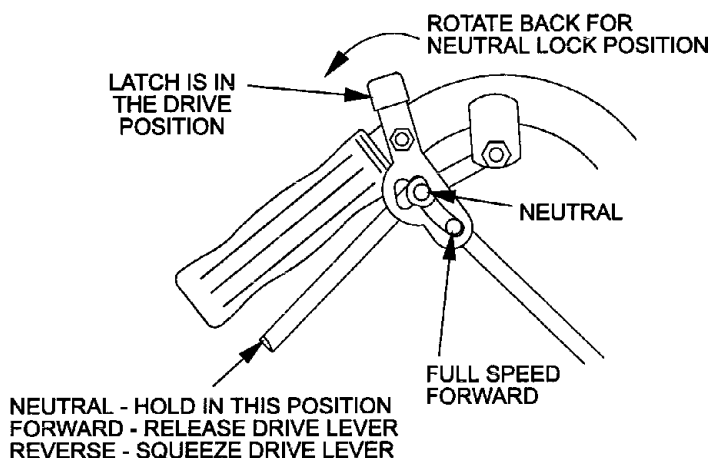

FIG. 8
- 4.1.3 Drive Levers: Located on each side of the upper handle assembly directly below the handle grips (See Figure 8). These levers individually control the speed and direction of each drive wheel. When the speed control lever is moved out of the neutral position and the lock latches are moved into the drive position, as shown in Figure 8, and the drive levers are released, the drive wheels are engaged in the forward direction.
- 4.1.4 **Neutral Lock Latch:** Located directly above the drive levers. These latches allow the operator to lock the drive levers in a "neutral" position where neither of the drive wheels are engaged in either a forward or reverse direction (See Figure 8).
- 4.3.4 Drive Lever/Neutral Lock Latch Operation: To lock the drive levers in neutral, squeeze the drive levers back to the neutral position (**Do Not** squeeze the drive levers all the way back as this will cause the drive wheels to go into full reverse direction). Place thumbs on the upper portion of the neutral lock latches and move them to the rear. Release drive levers (See Figure 8).